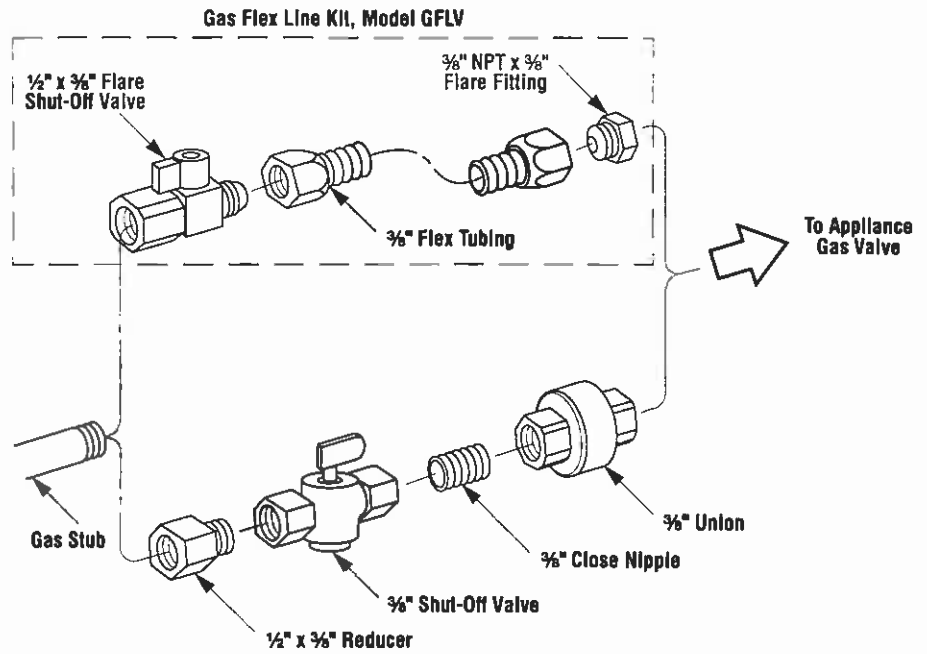

Figure 10
**Step 5. Connecting Gas Line –** Make gas line connections. All codes require a shut-off valve mounted in the supply line. Figure 10 illustrates two methods for connecting the gas supply. Installation methods and materials must be in compliance with local codes.